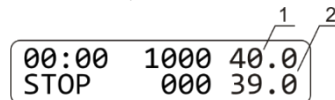

Figure 6. Display after calibration:
- 6.5 The display will show calibrated temperature as shown on fig. 6/1 and the unit will continue thermal stabilization according to the previously set temperature.